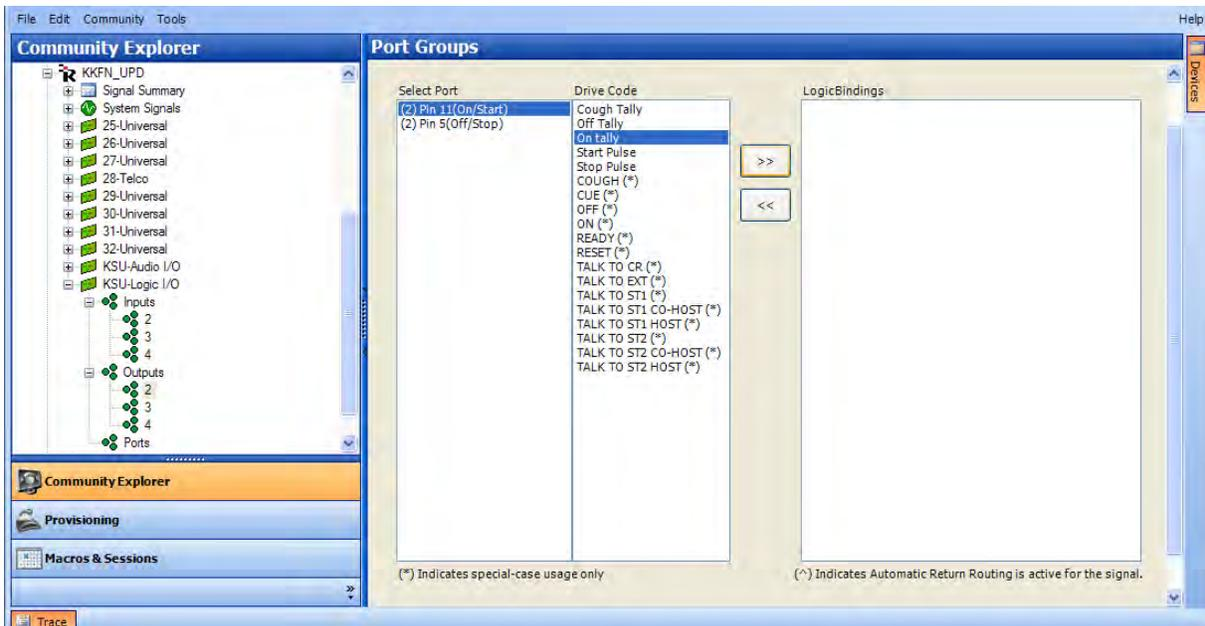

Figure A-16. VMCC Port Groups – Assignable Output Logic Connector Settings
2. Click an **Output** number (such as **2**) to open that logic connector in the **Port Groups** edit pane (Figure A-16).